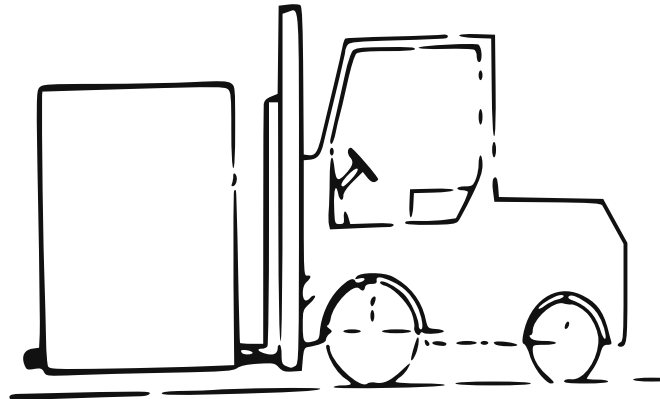
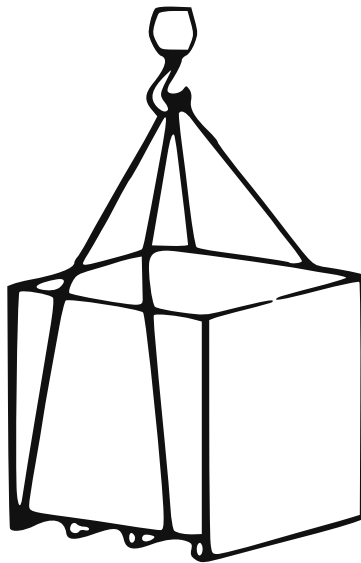

Figure 3-1: Moving the crated machine by forklift
Figure 3-2: Lifting the crated machine by reinforced cable
- Before unpacking, the crated machine can be moved by forklift (Figure 3-1) or lifted by reinforced cable (Figure 3-2).